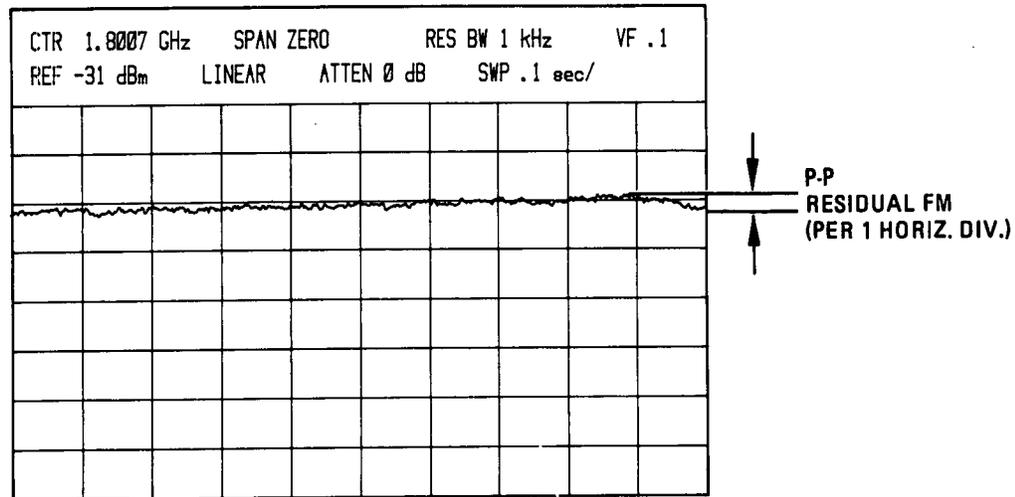

Figure 4-9. Residual FM Display
8. Set SWEEP TRIGGER to SINGLE. Press START/RESET push button to display one sweep as shown in Figure 4-9. Set TRACE A to STORE VIEW. The maximum peak-to-peak variation should not exceed the test limit calculated in step 6 for each horizontal division (since SWEEP TIME/DIV is .1 SEC and residual FM is specified in a time interval of 0.1 second).
16. Set SWEEP TRIGGER to SINGLE. Press START/RESET pushbutton to display one sweep as shown in Figure 4-9. The maximum peak-to-peak variation should not exceed the test limit calculated in step 14.